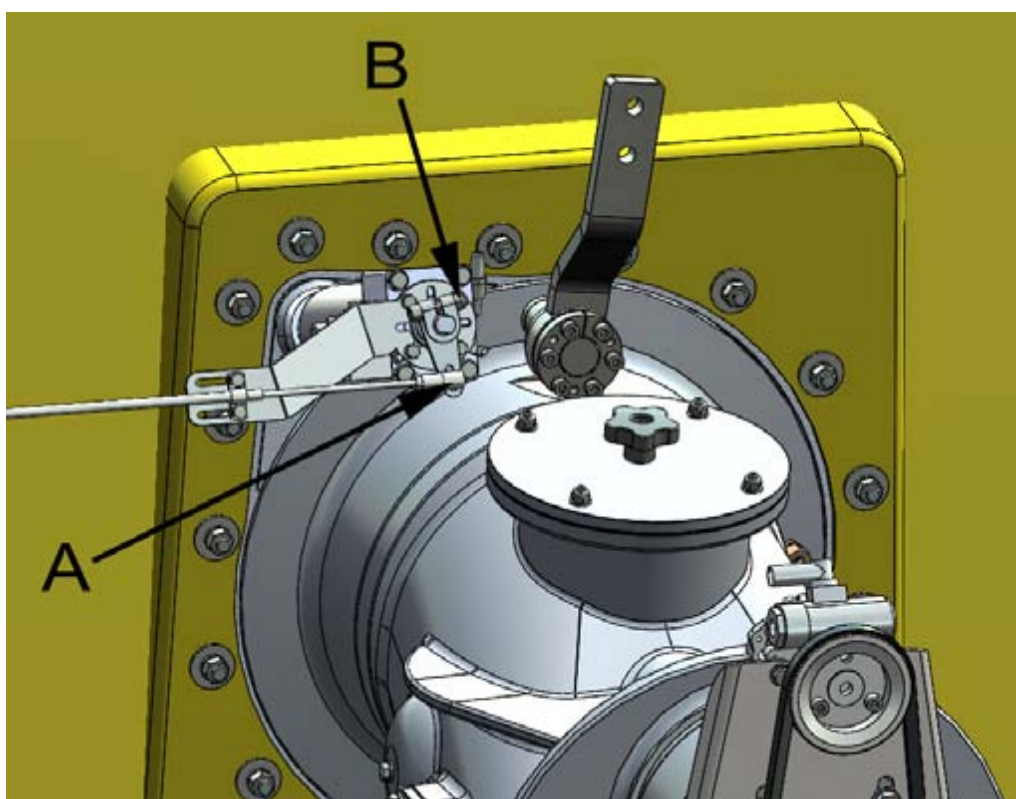

Figure 38. Removing the control cable
1. Detach the control cable from the end of the cylinder operating lever (figure 38, point A).
2. Loosen the operating lever screw (figure 38, point B) but do not pull the lever off the shaft yet.
7. Attach the control cable to the screw at the end of the operating lever (figure 38, point A).